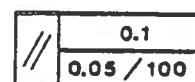

Fig. 21
- 4.6 If, to the tolerance on the whole feature, another tolerance of the same type but smaller and restricted on a limited length is added, the latter tolerance should be indicated below the former (see Fig. 21).
Fig. 21 a